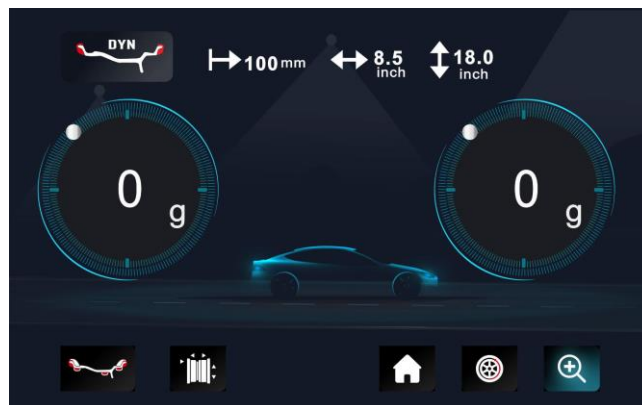

Fig. 5
4.1.8 After clipping the counterweights, close the guard. Press  to perform a balancing spin again, if the display shows 00 and 00, this means that balancing was successful (Fig. 5).